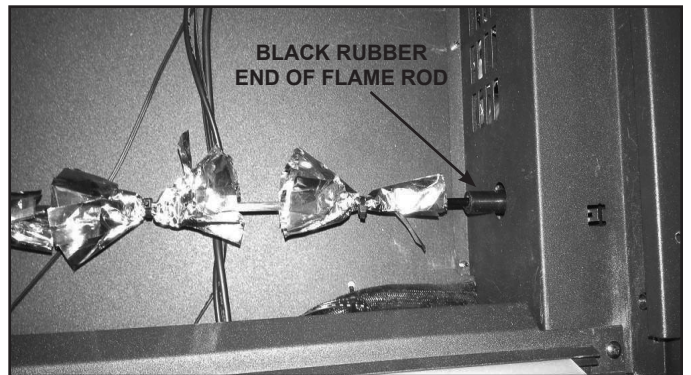

Figure 10 Black Rubber End of Flame Rod
- Pull out the black rubber end of the Flame Rod located on the right side of the appliance. See Figure 10.